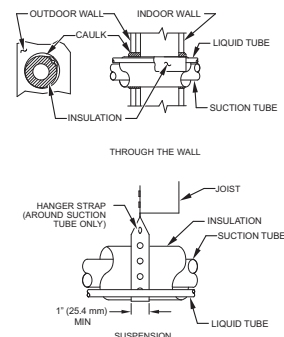

Fig. 1 – Piping Installation
5. When passing refrigerant tubes through the wall, seal opening with RTV or other pliable silicon–based caulk. (See Fig. 1.)
7. Do not suspend refrigerant tubing from joists and studs with a rigid wire or strap which comes in direct contact with tubing. (See Fig. 1.)
9. When necessary, use hanger straps which are 1 in. (25.4 mm) wide and conform to shape of tubing insulation. (See Fig. 1.)